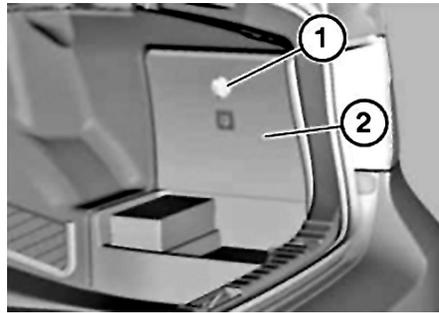

Fig. 1 Access door removal
3. Turn fastener (1) 90° in lefthand direction, then open luggage compartment access door and remove, **Fig. 1**.